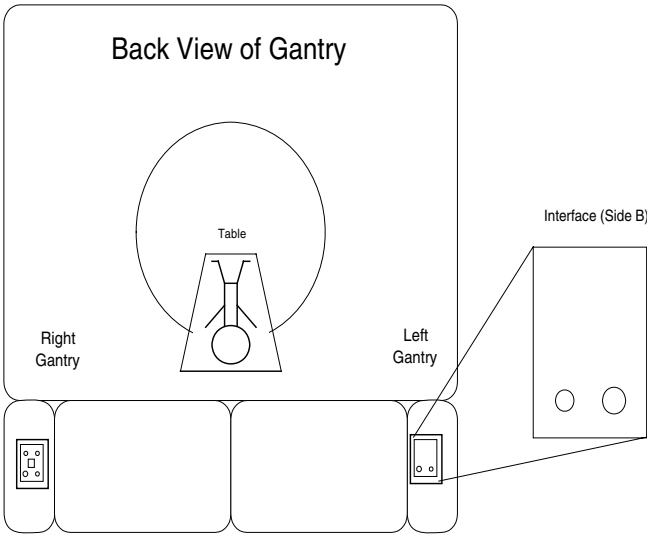

Figure 3-2 Gantry Connections
See Figure 3-2 for gantry’s external connections.
- 5.) Refer to Figure 3-2, on page 32. Attach the SmartStep cable to the faceplate, as follows: